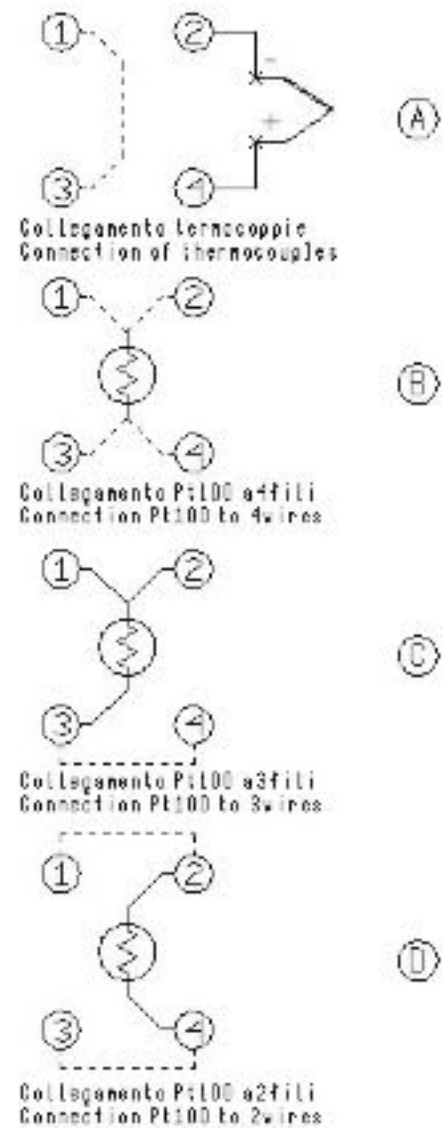

Fig. 6
- Connect the probe's wires to the clamps (15) as it is indicated in the figures.
- ◇ Thermocouple – connect the wires to the clamps 2-4 to make attention to the polarity; connect the clamps 1-3 as indicated. Reference to Fig. 6-A and select the thermocouple.
- ◇ Pt100 to 4 wires – connect the clamps 1-2-3-4 as indicated in Fig. 6-B and select Pt100.
- ◇ Pt100 to 3 wires – connect the wires to clamps 1-2-3; connect the clamps 3-4 . and select Pt100 3W. Reference to Fig. 6-C
- ◇ Pt100 to 2 wires – connect the wires to clamps 2-4; connect the clamps 1-2 & 3-4; select Pt100; In case of two wires connections remembers to us shortest wires possible. Refer to Fig. 6-D